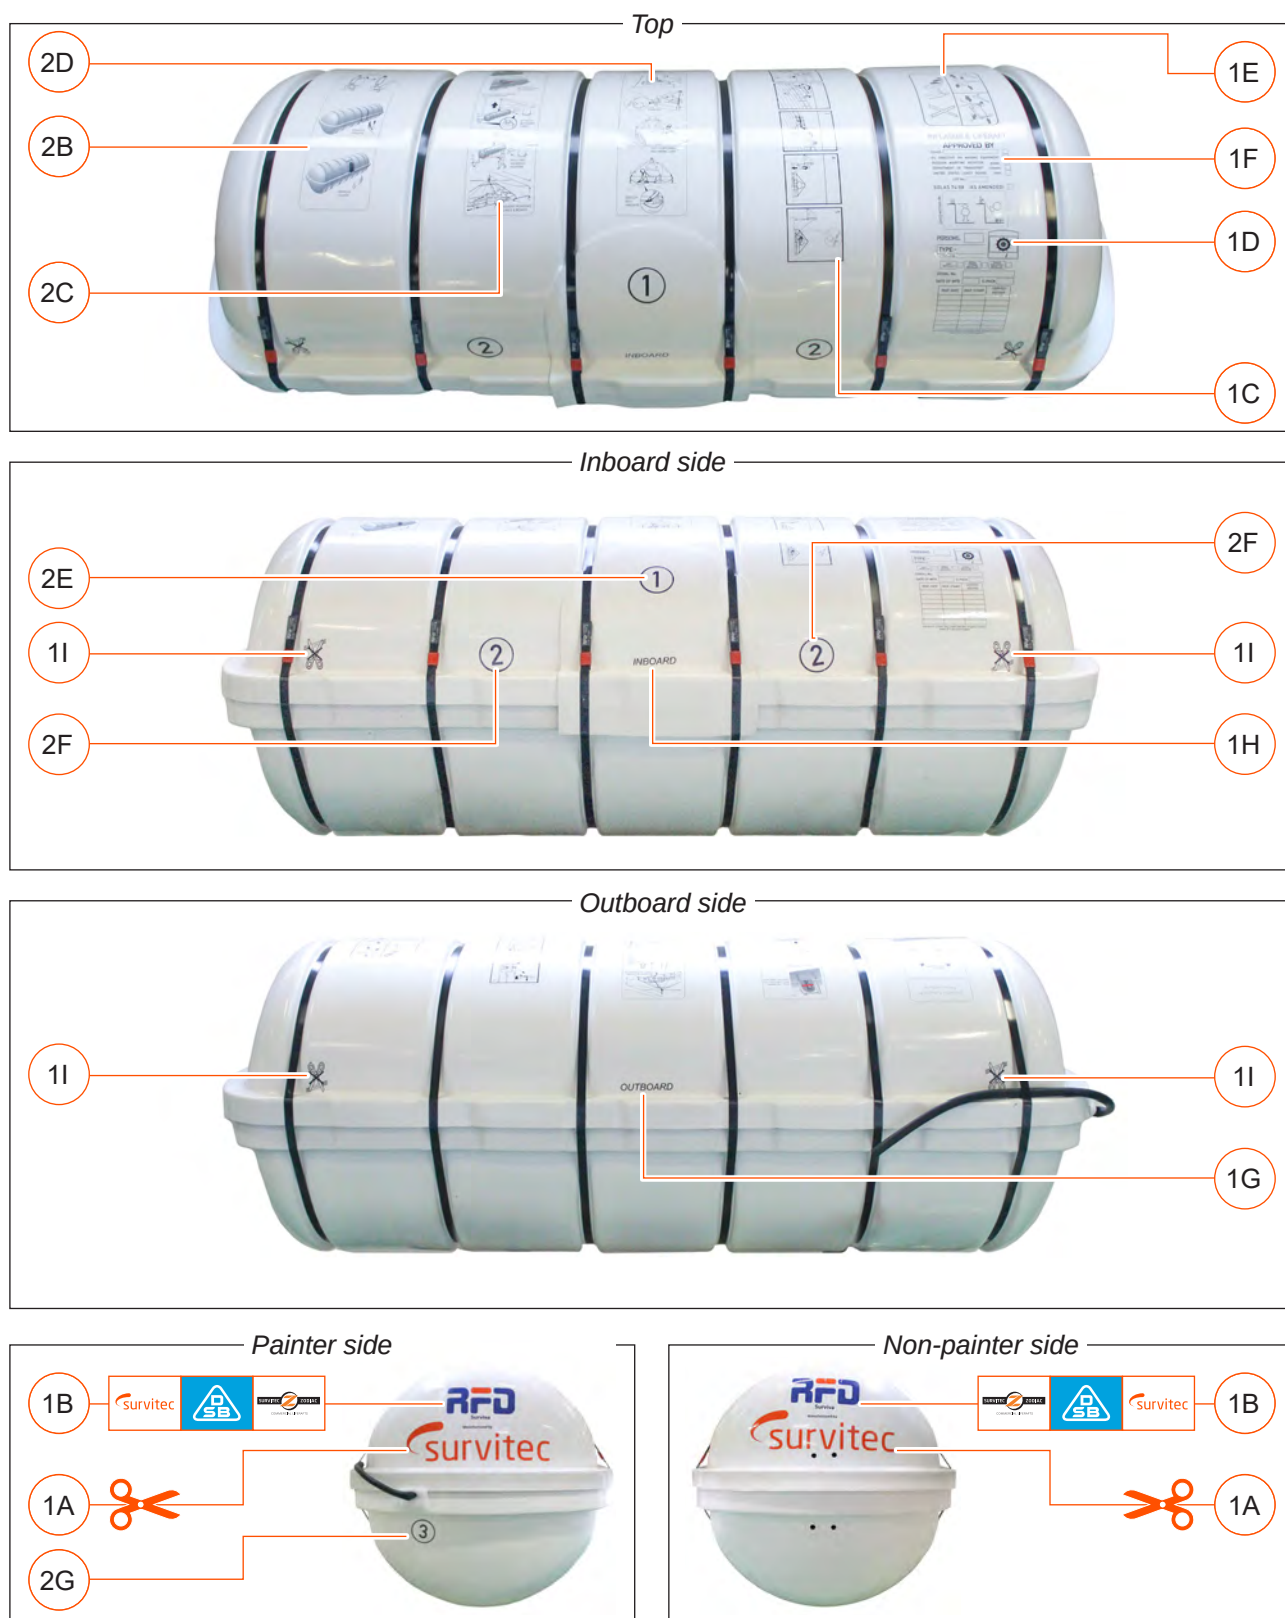

Figure 16
- Mk 10 size 6. Refer to **Figure 16** for label positions.